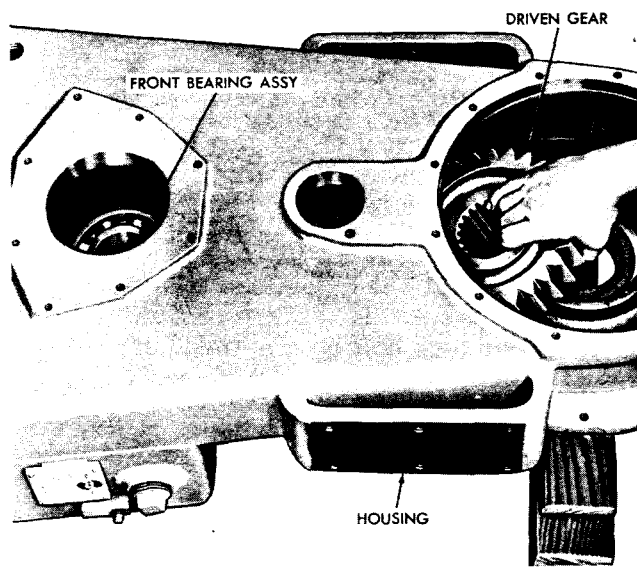

Fig. VII-1. Installing output transfer driven gear
(2) Install drain, oil check, and filler plugs into the housing.
(3) Position the transfer housing, front downward, and level it with blocks (fig. VII-1).
(4) Install the rear output shaft front bearing assembly (fig. VII-1).
(5) Install the transfer driven gear into the housing. The long side of the hub must be toward the front of the housing (down). Position the gear on the rear bearing (fig. VII-1).